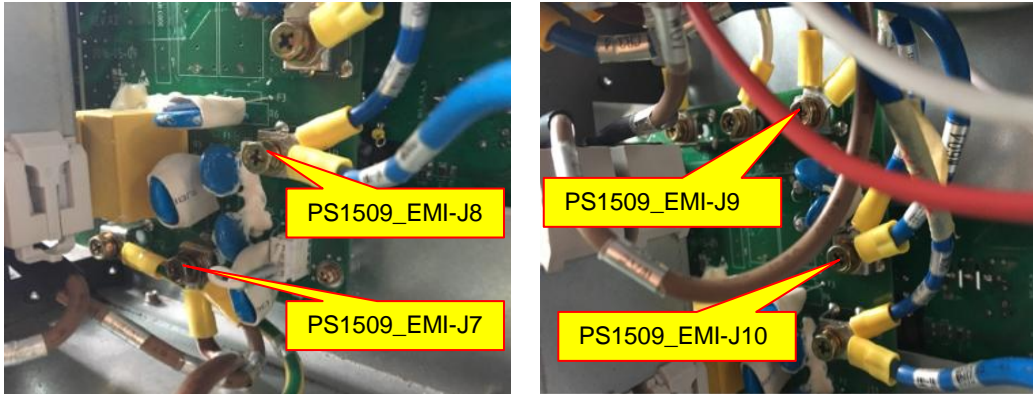

Figure 5 Cable connection
4. Connect the other end of cable W601 to J7 terminal of EMI board; the other end of W603 connect to J9 terminal of EMI board; the other end of W602 connect to J8 terminal of EMI board; the other end of W604 connect to J10 terminal of EMI board, as is shown in figure 5.